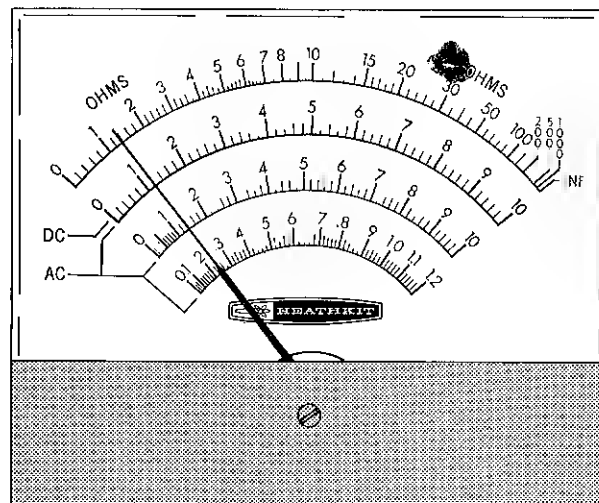

Figure 4
- (1) Turn the SELECTOR switch to AC VOLTS/1000 and set the POWER switch to ON.
- (2) Connect the AC-ohms test leads (black lead and red lead) across the AC line. You can do this most conveniently if you first attach the alligator clip on the black lead to the metal shank of a screwdriver. Then insert the blade of the screwdriver into one of the slotted openings in an electric wall outlet. **TAKE CARE NOT TO TOUCH THE TIP OF THE RED PROBE TO THE SCREWDRIVER,** and carefully insert the tip of the red probe into the remaining opening in the wall outlet.
- (3) Adjust the AC CAL control (on the circuit board) for a meter reading of 120 volts on the black scale (this is a reading of 1.2, or one scale division above the numeral 1, as shown in Figure 4). If the line voltage is known to be other than 120 volts, adjust for this value.
- (4) Disconnect the test leads from the AC line.